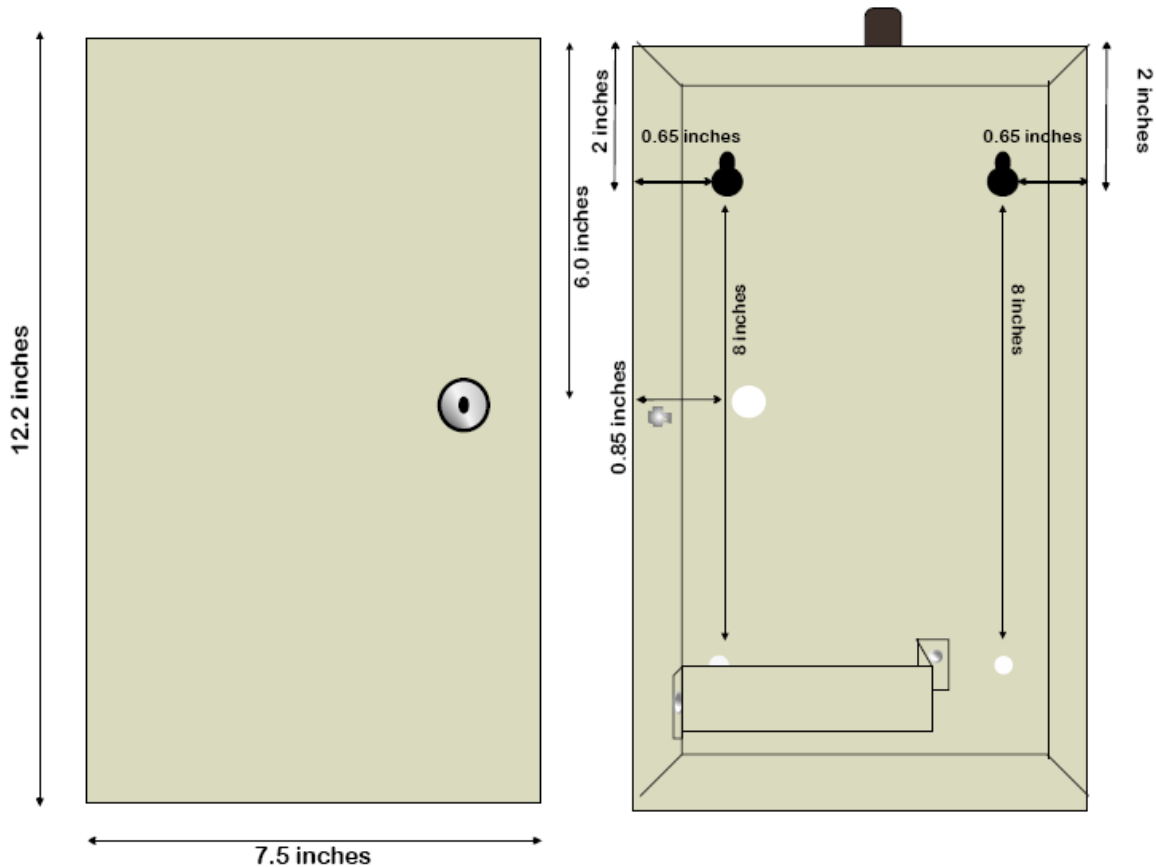

Figure 2: Inside & Outside Mounting Dimensions for the 2550-CB
Position the bottom of the 2550-CB enclosure where it will be installed. Use four (4) #6 screws and mount the unit using the four holes in the enclosure's plastic bottom. The 2550-CB unit's dimensions are shown in Figure 2.